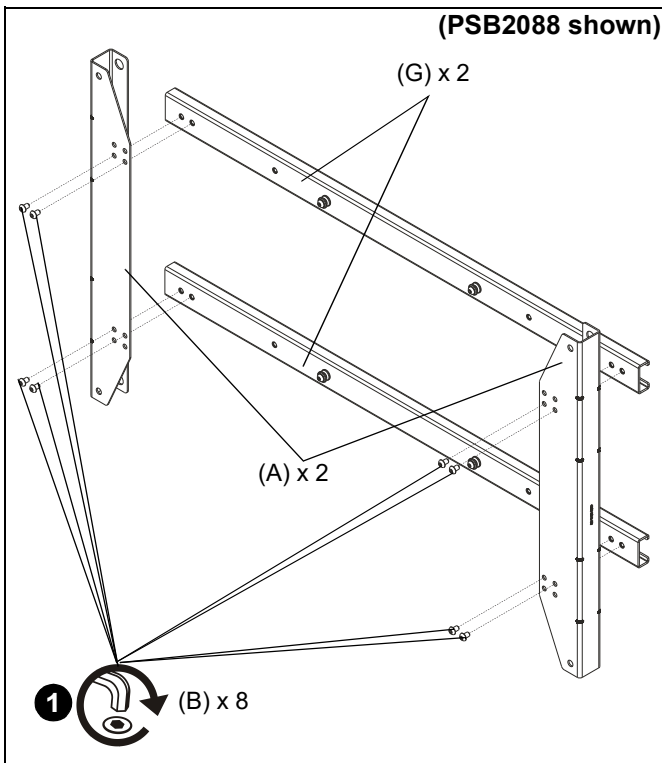

Figure 1
1. Use eight M8 x 12mm button head cap screws (B) and M5 hex key (E) to secure two side plates (A) to two cross bars (G). (See Figure 1)